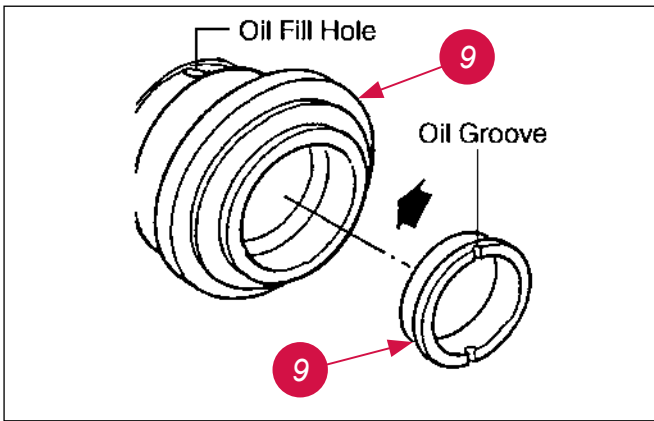

Fig. TSR-6 Bushing – Install
1. Clean all parts thoroughly and press the bushings (9) into the roller body so that the oil grooves in the bushing are aligned with the oil fill hole (fig. TSR-6).